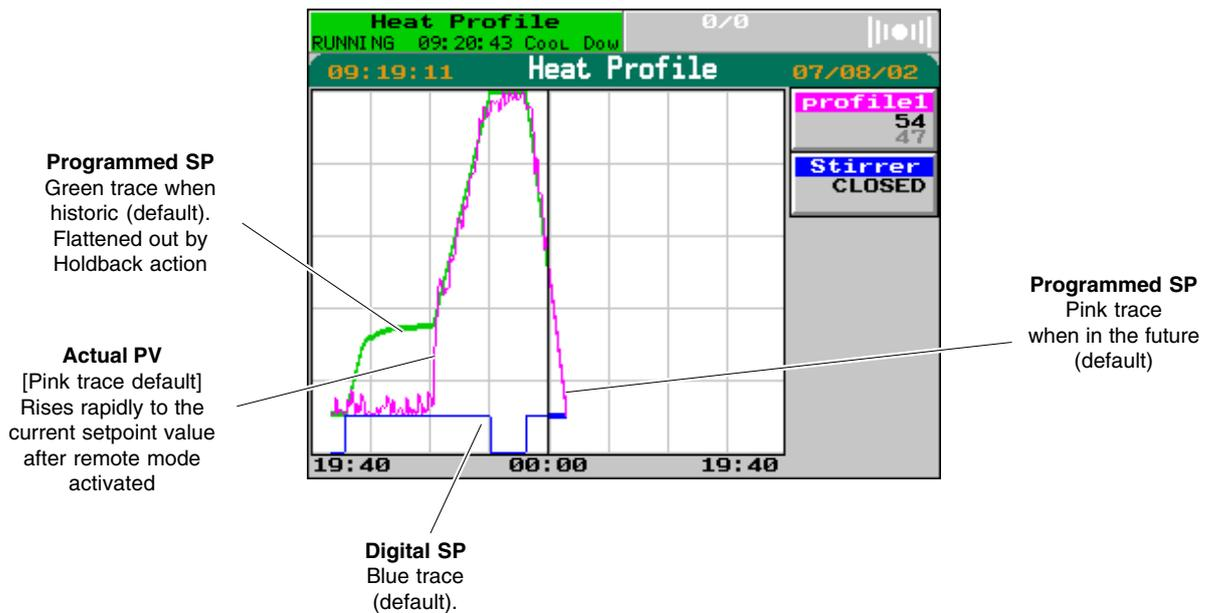

Figure 3-8 Preplot view of ‘Heat Profile’ (Cool Down segment)
- 8 To put this right, press the **Menu** softkey, then **SYSTEM, APPLN, FB MGR** to access the **FB Manager** window. Press the ‘pid’ block box to see the PID block parameters, scroll down to the **SelMode** field, press the yellow value pop up the **SelMode** menu. Set **SelRem** to TRUE to select remote mode and press return. Repeat for **EnaRem** to enable remote mode. Finally, press the program pane, then **PRE-PLOT**, and watch the progress. PV now shoots up rapidly to follow the programmed SP, which is released from holdback mode and resumes its intended path — see Figure 3-8.